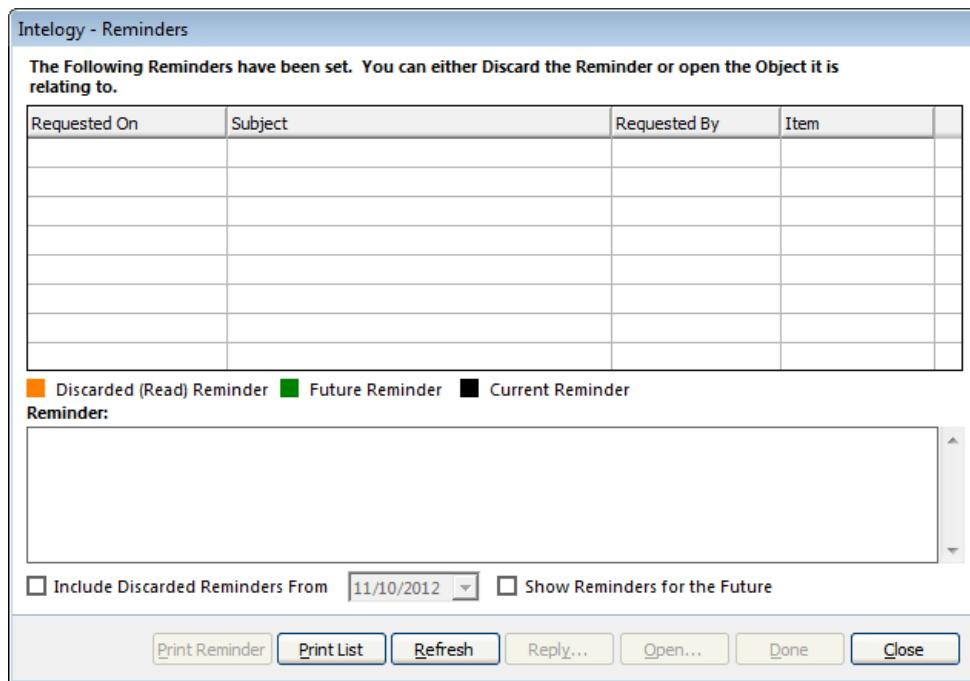

Figure 11.9 - Reminders Management Screen
Each employee that has been configured correctly, can see a history of reminders allocated to them, Reminders for future dates are also shown here as seen in Figure 11.9.
3. **Click** 'View Reminders...' to display the Reminder management Screen as Seen in Figure 11.9